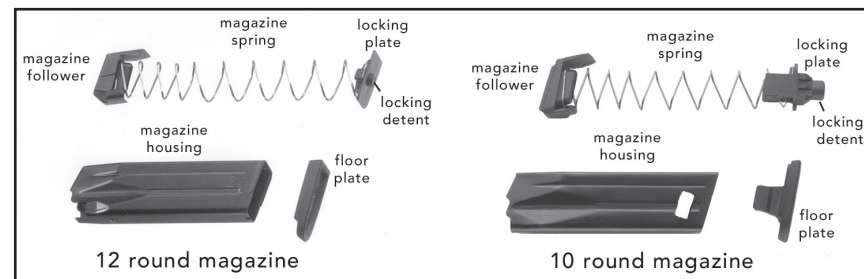

Figure 11 Disassembled 12 and 10 round magazines
3. Place the locking plate onto the protruding end of the magazine spring so that the locking detent is visible (see Figure 11).
10-Round Magazine (see Figure 11)